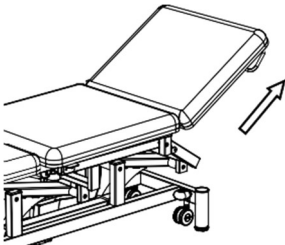

Figure 7
- When the desired angle is reached, release the control lever to be parallel to the chair surface and the chair surface angle will be locked. (Figure 7)